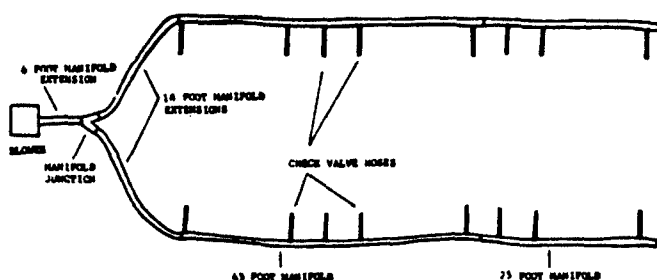

Figure 38. Manifold layout diagram
2. Each extension is then attached to the manifold junction (Figures 35 and 36). See overall Figure 38.
NOTE: ALL OF THESE CONNECTIONS WILL BE MADE WITH THE LARGER HOSE CLAMP AND NUT DRIVER LOCATED IN THEIR ERECTION KIT. THE MANIFOLD ASSEMBLY WHEN COMPLETE WILL LOOK LIKE FIGURE 38.